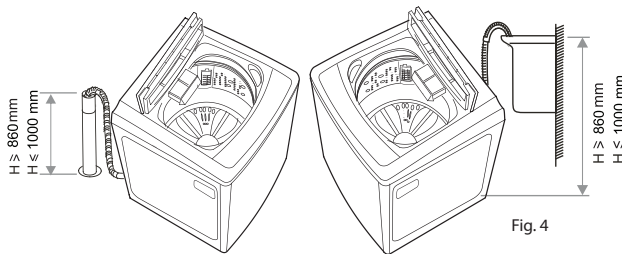

Fig. 4
- When the washer is in use, put the drain hose into a drain spout (or into a sink/tub), as illustrated in Fig. 4.